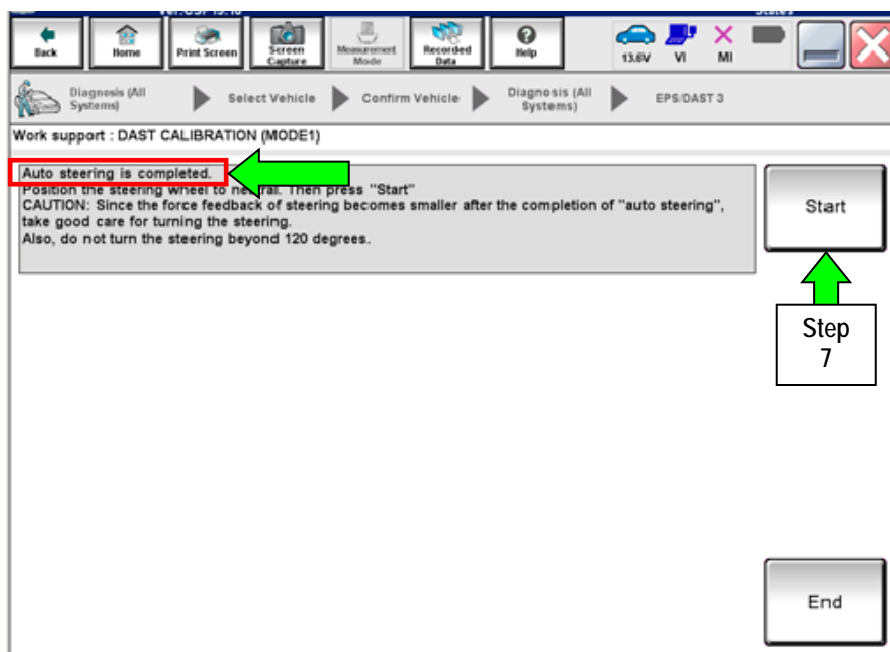

Figure 25
- When Auto steering has completed, center the steering wheel to the neutral (straight ahead) position, and then select **Start** again (see Figure 25).